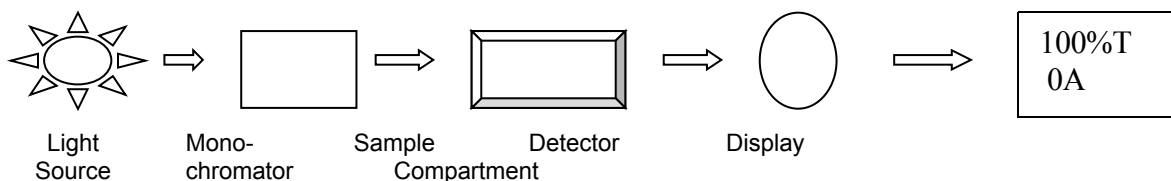

Fig 2
- 5) A digital display to indicate absorbance or transmittance. The block diagram (Fig 2) below illustrates the relationship between these parts.